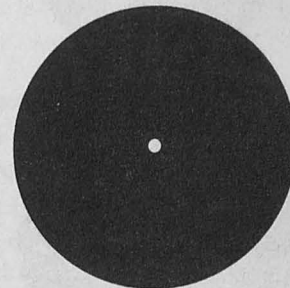

Figure 4-2. Initial Adjustment Pattern
(4) Turn the SWEEP RANGE control to 15.
(5) Turn the SWEEP VERNIER to its minimum setting. The spot will start at the left side of the screen and move slowly across to the right. As it completes its course to the right side of the screen, it will be seen to start again almost immediately at the left side of the screen.
(6) Gradually increase the setting of the SWEEP VERNIER control. The spot first blends into a flickering trace as the frequency is increased. As the SWEEP VERNIER is advanced farther, the rate of flicker increases until a solid, unflickering straight line finally appears on the screen.
e. USE OF X GAIN CONTROL.—The X GAIN control was used in preceding steps for adjusting the length of the line generated by the sweep generator. When this control is at zero, a spot will appear at the center of the screen (figure 4-2). As the control is advanced toward maximum, the length of the horizontal trace is simultaneously increased.
(1) STEPS FOR USING INTERNAL SYNCHRONIZATION. (See figures 4-2, 4-3, and 4-4.)